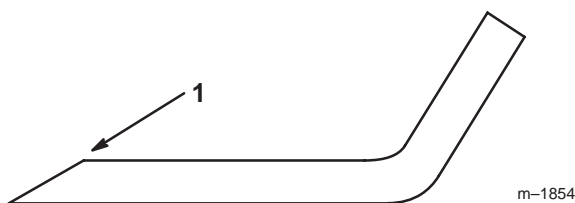

Figure 56
1. Use a file to sharpen the cutting edge at both ends of the blade (Fig. 56). Maintain the original angle. The blade retains its balance if the same amount of material is removed from both cutting edges.